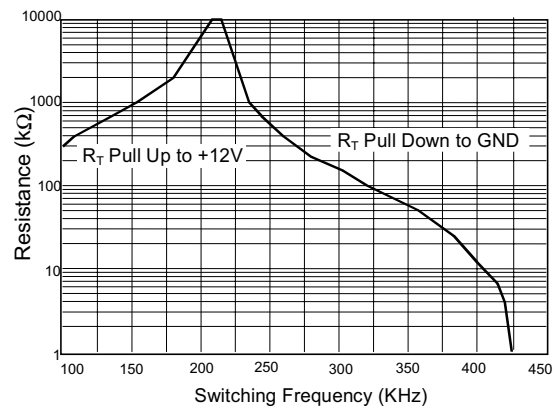

Fig. 3  $R_T$  Resistance VS. Frequency
- Pin 10: RT: Frequency adjustment pin. Connecting a resistor (RT) from this pin to GND, increasing the frequency. Connecting a resistor (RT) from this pin to VCC, decreasing the frequency by the following figure (Fig.3).